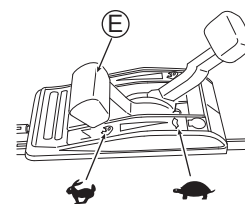

Fig. 12
- Confirm that there is no person behind you when pulling Starter knob (V).
- Securely grab Starter knob (V) when you pull it.
- Return Starter knob (V) slowly.
5. Warm up the machine before use. After the engine has warmed up, start mowing by setting Throttle lever (E) to "I/N". (See Fig. 12)